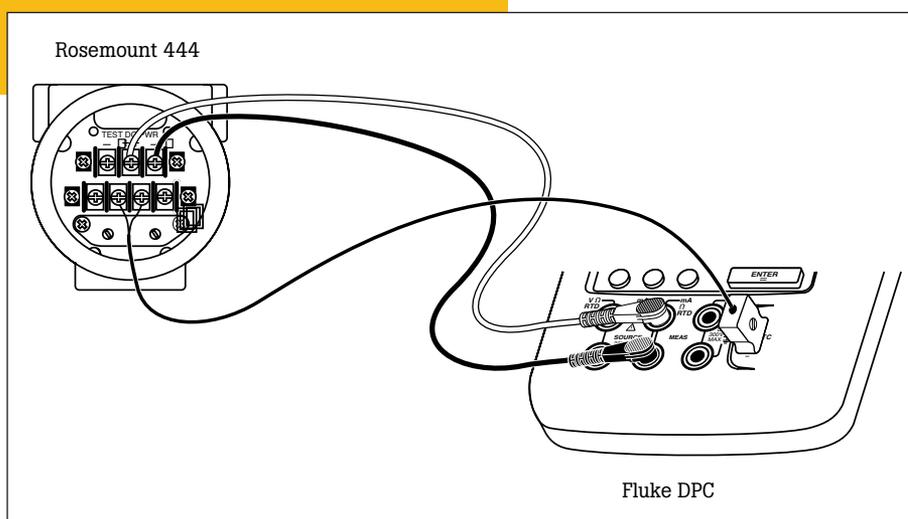

Figure 1
1. Connect a type K mini-connector into the "TC" input of the DPC and connect to the thermocouple input of the transmitter (Figure 1). It is necessary that you use the correct type of mini-connector for this connection to the DPC.
2. Connect the center two terminals of the DPC to the connections on the transmitter where loop power is applied (Figure 1).